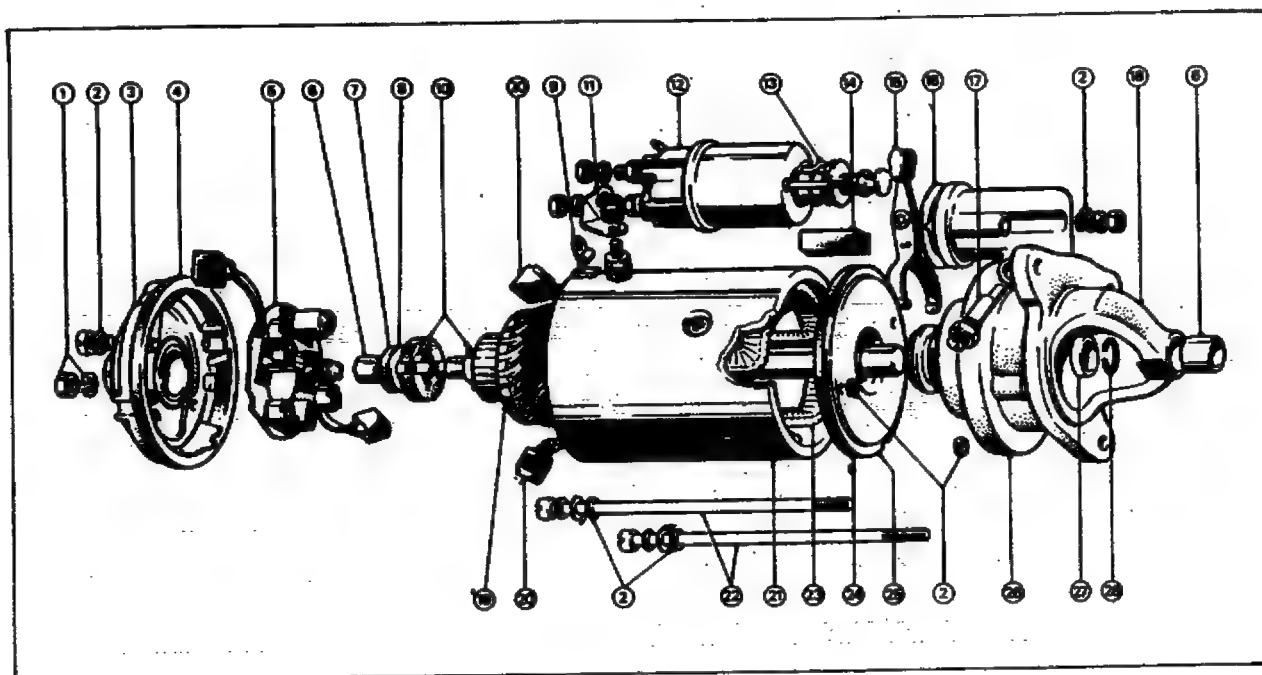

Fig. 53 — Starter, dismantled
The pre-engaged starter (Fig. 53) is a four pole four brush machine of 127 mm. (5 in.) diameter having a solenoid operated, roller clutch drive. The solenoid incorporates two sets of contacts which provide two-stage switching. When the starter is operated the pinion moves into full engagement with the engine flywheel ring-gear and the first and second stage contacts of the solenoid close simultaneously, connecting all four field coils of the starter to the battery, full cranking torque then develops. On occasions when the tooth-to-tooth abutment occurs, the solenoid plunger continues to move by compressing a drive engagement spring inside the plunger. This plunger movement causes the first stage contacts to close, connecting one of the field coils to the battery. The starter armature now turns at low speed and the pressure of the drive engagement spring, combined with push screw assistance from the drive helix causes the pinion to move into mesh.
4. At both ends of the through bolts, at the earthing stud, solenoid fixing studs and brush gear plate securing screws in the outer face of the commutator end cover see Fig. 53.